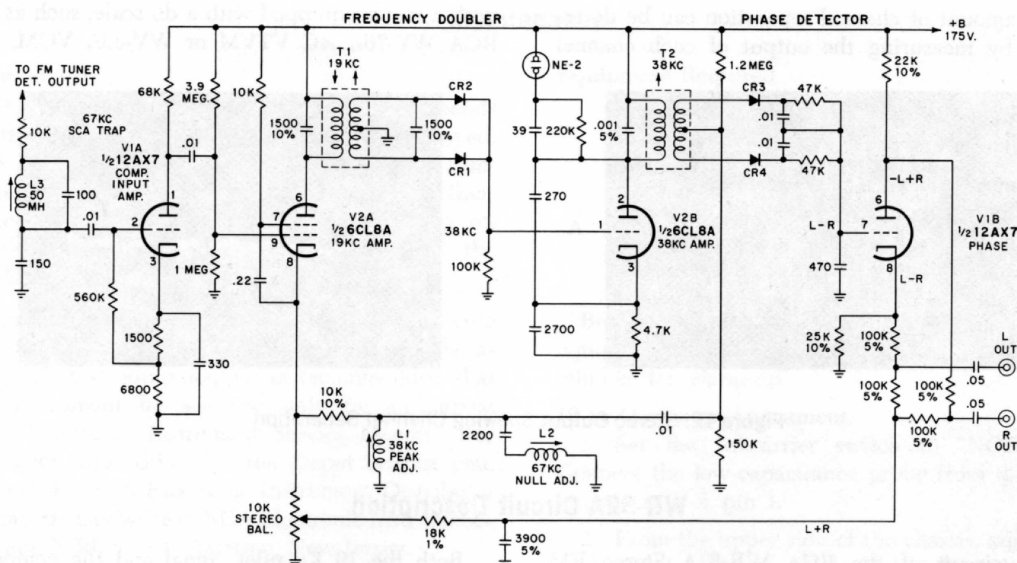

Figure 11. Multiplex Circuit Schematic
The following example is provided as an aid in understanding the use of the Simulator in checking the tuner and aligning the multiplex circuit of a stereo fm receiver. The multiplex alignment procedure given is for one particular receiver. The schematic diagram for the IF limiter and discriminator stages is shown in Figure 6, and the multiplex circuitry is shown in Figure 11.
10. Set the FUNCTION switch to "AUDIO/MONO", and the FREQUENCY switch to "19 KC". Refer to the multiplex circuit schematic diagram shown in Figure 11.